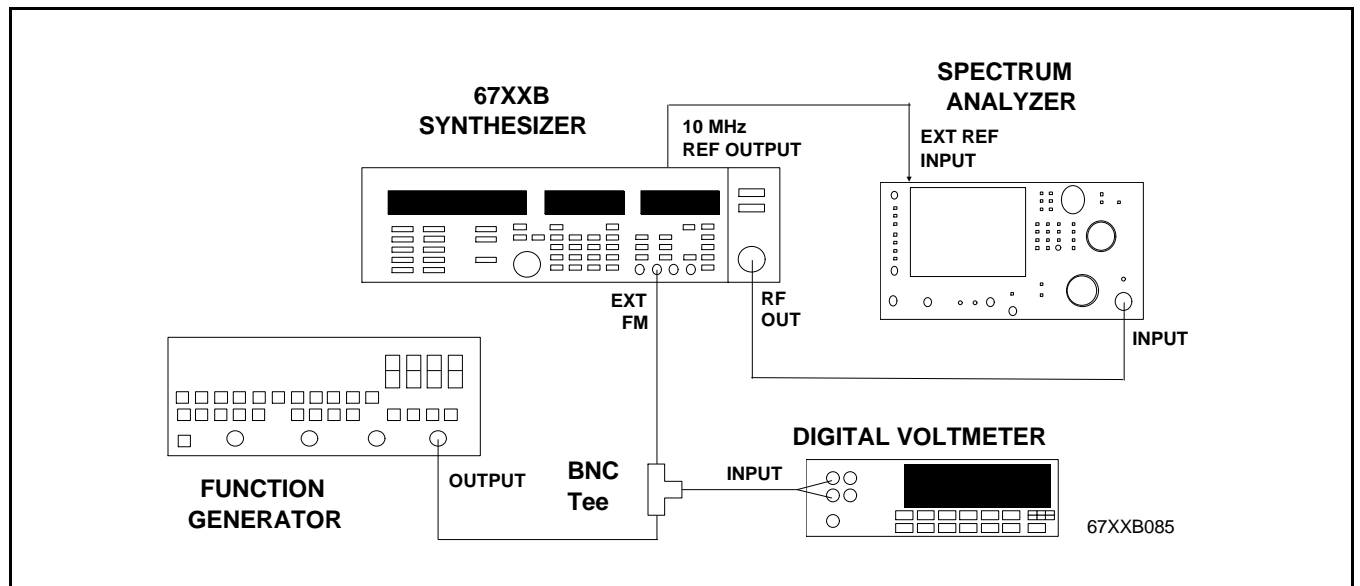

Figure 2-14. Equipment Setup for FM Modulation Tests (0.01 to 20 GHz)
1. Connect the equipment, shown in Figure 2-14, as follows: